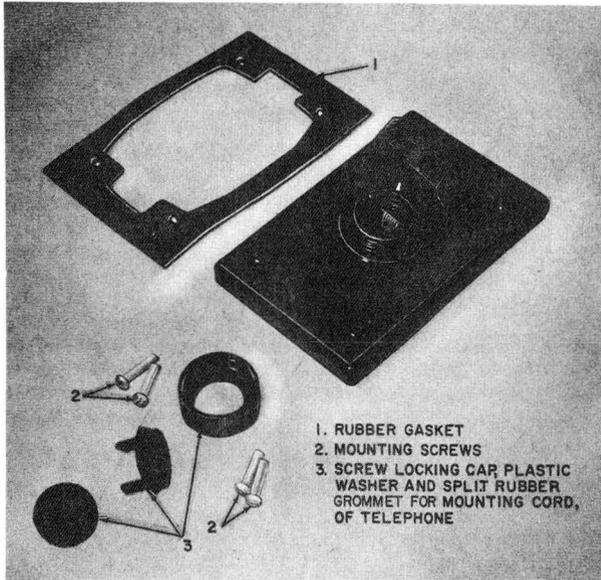

Fig. 6—625WP Connecting Block (All Parts Included in Package)†
3.10 **625WP Connecting Block:** This block (Fig. 6) should be mounted on a B outlet box. A parts package is provided with the 625WP connecting block consisting of a rubber gasket and four mounting screws to seal the mounting block to the outlet box. Also provided is a plastic screw-on cap, a plastic washer, and a split rubber